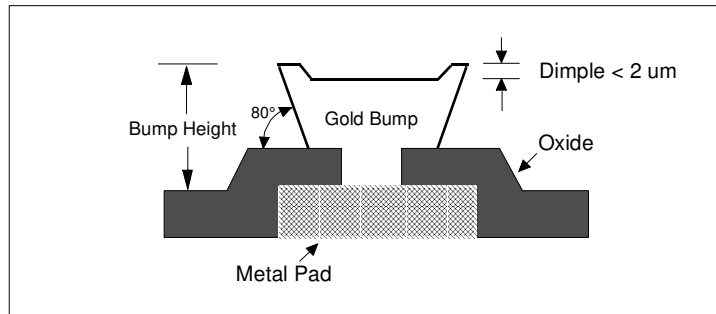

Figure 3-5: Bump Specification Definitions
- Bump Dimple: less than 2 μm (see Figure 3-5)